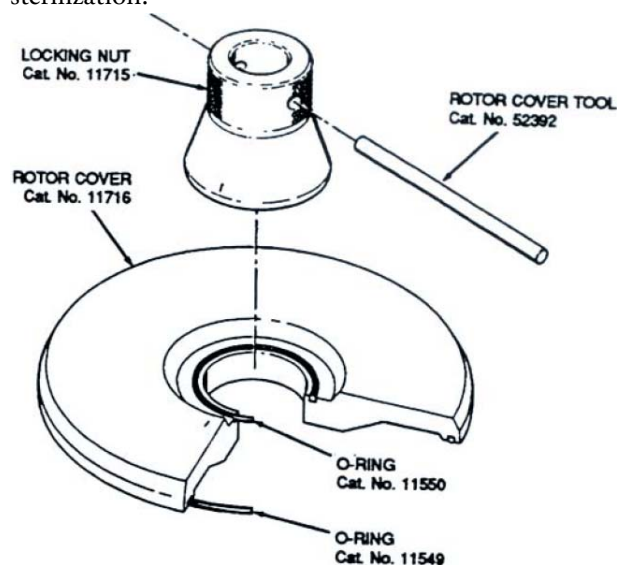

Figure 3-1. Rotor Cover Assembly
3. Separate the locking nut from the rotor cover, and check the locking nut O-ring and rotor cover O-ring for scuffs, cracks, or breaks. Replace if necessary (see Figure 3-1 for replacement part catalog numbers).
b. Rotor Cover Assembly (Figure 3-1)